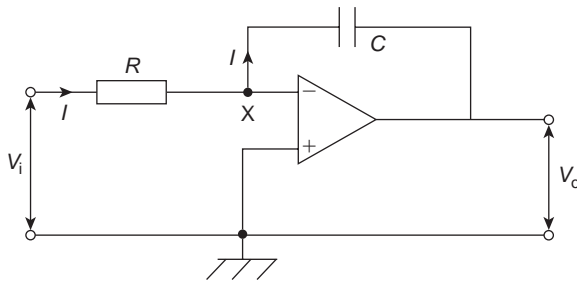

Figure 21.15
The circuit for the op amp integrator shown in Fig. 21.15 is the same as for the op amp inverting amplifier shown in Fig. 21.5, but feedback occurs via a capacitor C rather than via a resistor.
Since the inverting ($-$) input is used in Fig. 21.15, V_o is negative if V_i is positive, and vice versa, hence the negative sign in equation (9).
Since X is a virtual earth in Fig. 21.15, i.e. at 0 V, the voltage across R is V_i and that across C is V_o . Assuming again that none of the input current I enters the op amp inverting ($-$) input, then all of current I flows through C and charges it up. If V_i is constant, I will be a constant value given by $I = V_i/R$. Capacitor C therefore charges at a constant rate and the potential of the output side of C ($= V_o$, since its input side is zero) charges so that the feedback path absorbs I . If Q is the charge on C at time t and the p.d. across it (i.e. the output voltage) changes from 0 to V_o in that time then: